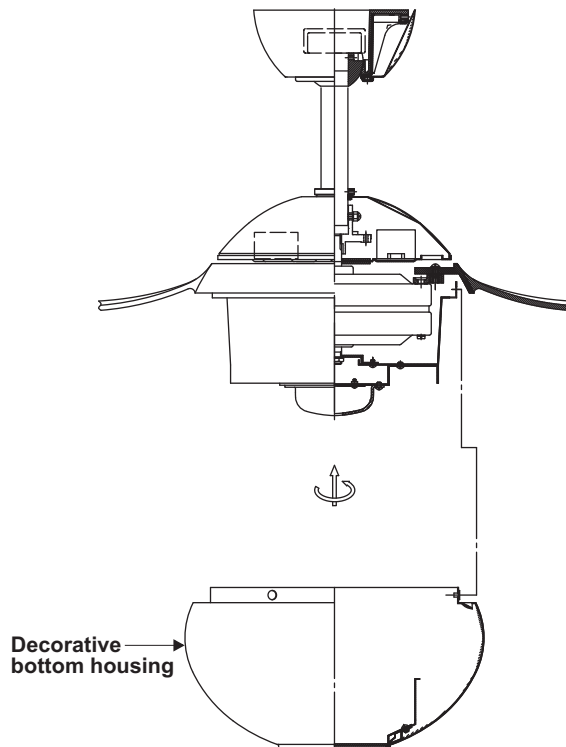

Figure 18
1. Raise decorative bottom housing up against bottom of fan housing and secure it to the fan by turning the decorative bottom cover clockwise until snug. DO NOT OVERTIGHTEN. (Fig. 18)